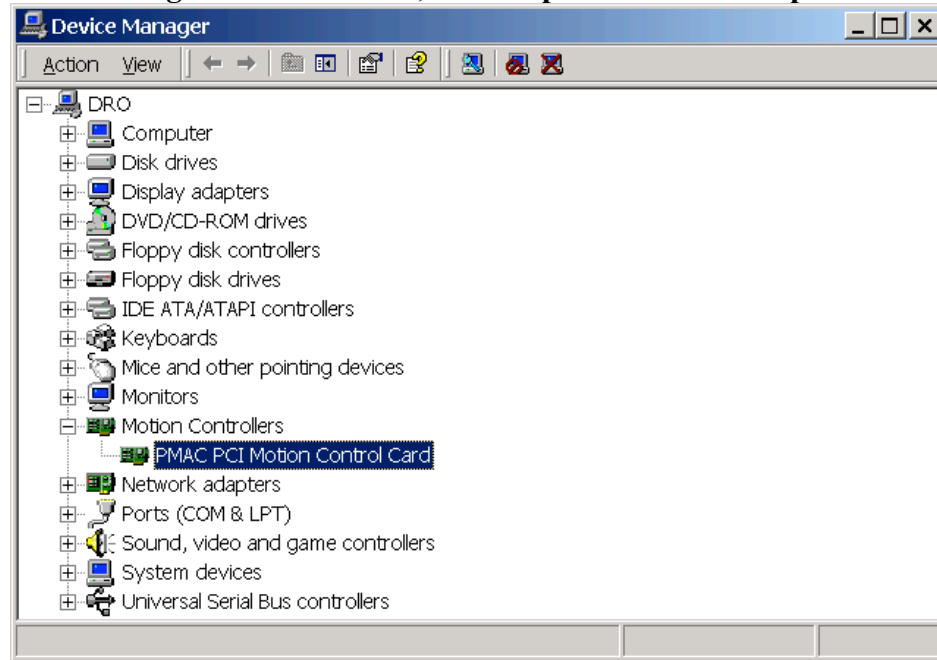

Figure 4
4. The device manager window will open up Figure 4. In the device manager window, find the motion controllers option and expand the tree. You would see “PMAC PCI Motion Controller Card” device. Double click on it.